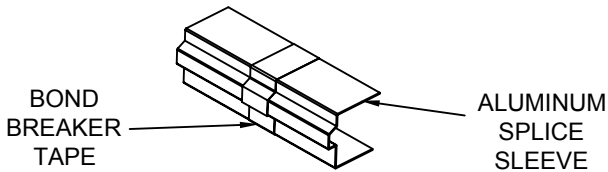

FIGURE 1
- STEP A:** Apply bond breaker tape to bottom of aluminum splice sleeve as shown. (Figure 1)